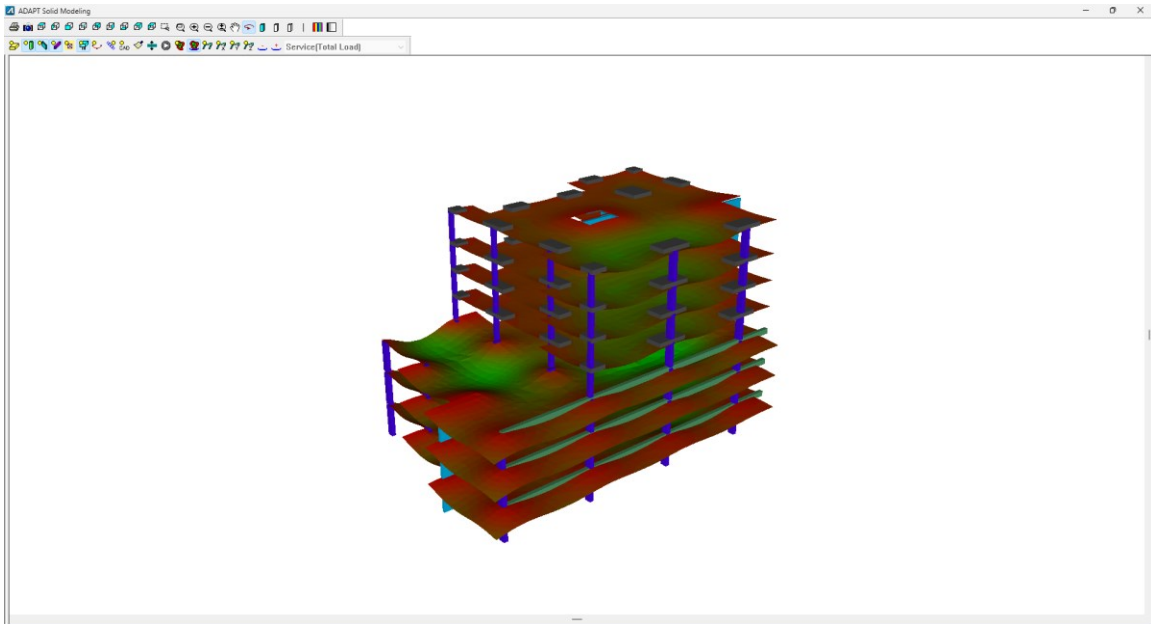

FIGURE 7-17
- Click on the **Warp Contour** icon  to warp the contours as shown in **FIGURE 7-17**.